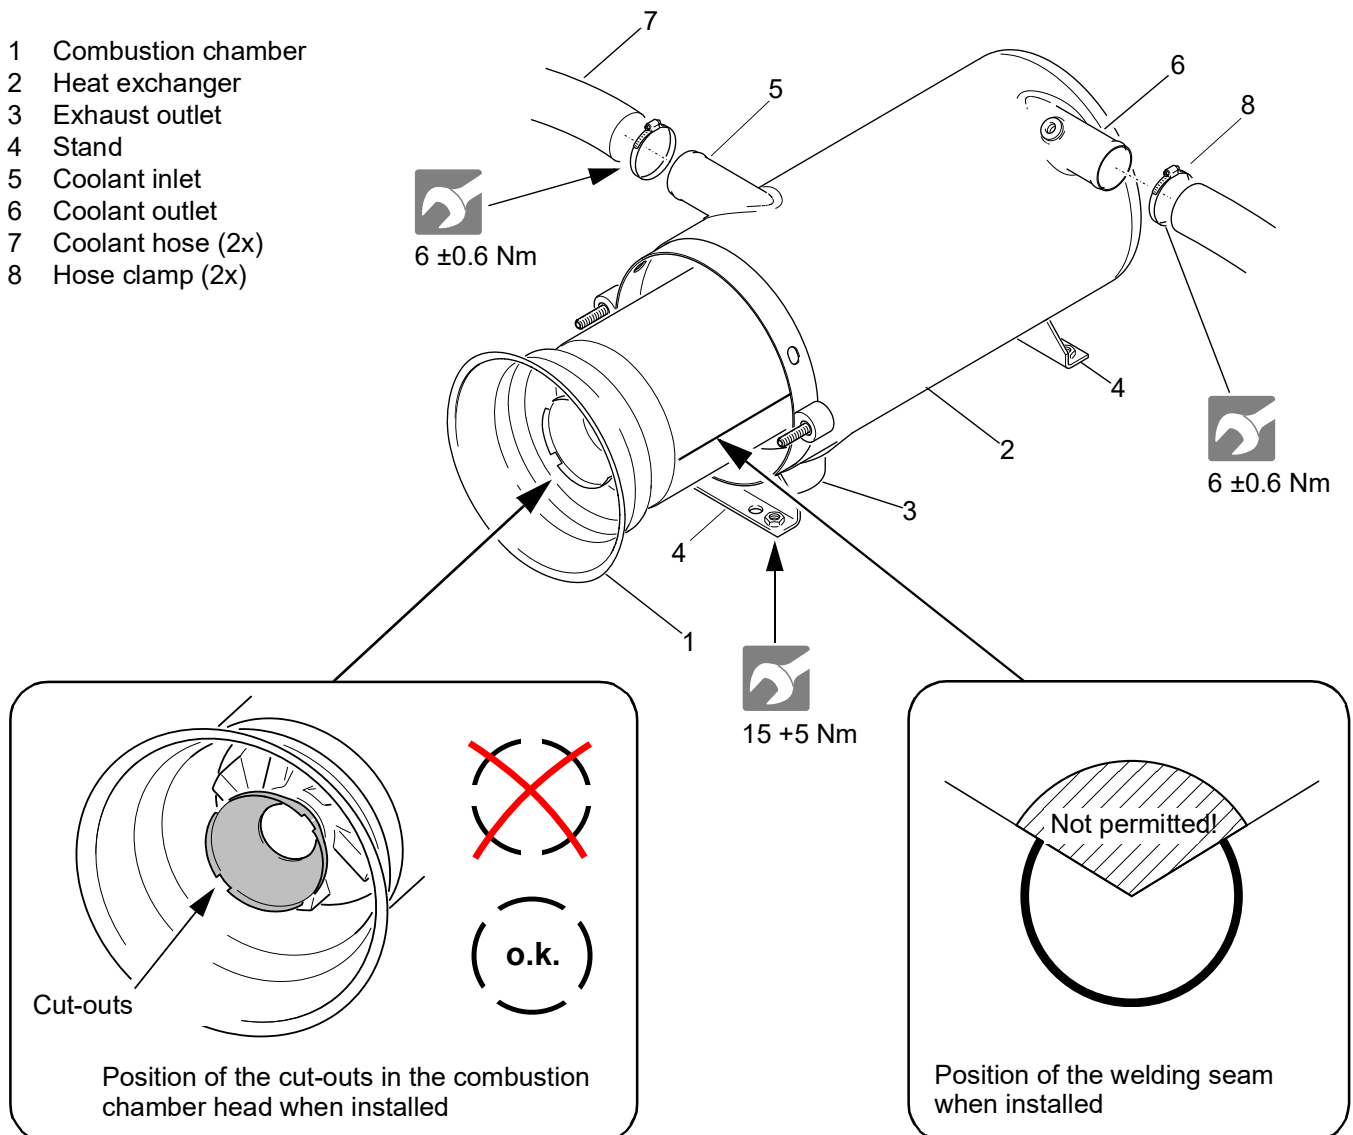

Fig. 808 Combustion chamber removal and installation
2. Pull the combustion chamber (1, Fig. 808) out of the heat exchanger (2).
- Slide combustion chamber (1, Fig. 808) fully into the heat exchanger (2) against stop. Pay attention to
- The combustion chamber should be inserted into the heat exchanger in such a way that its welding seam is positioned between 2 and 10 o'clock (not upwards!) (Fig. 808).
- Position the cut-outs in the combustion chamber head as shown in Fig. 808.
- Remove combination screws (2) and remove burner head (1) from heat exchanger.
- If necessary, loosen the exhaust line clamp on the exhaust outlet (3, Fig. 808).
- Position the combustion chamber (1) correctly into the heat exchanger (2) (see Fig. 808).
- Bring heat exchanger (2, Fig. 808) into installation position and mount stand (4) using screws, nuts and washers to the vehicle according to the mounting points used.
- If necessary, secure the exhaust line using a clamp to the exhaust outlet (3).
- Fit coolant hoses (7) onto the coolant inlet (5) and the coolant outlet (6) and secure with hose clamps.